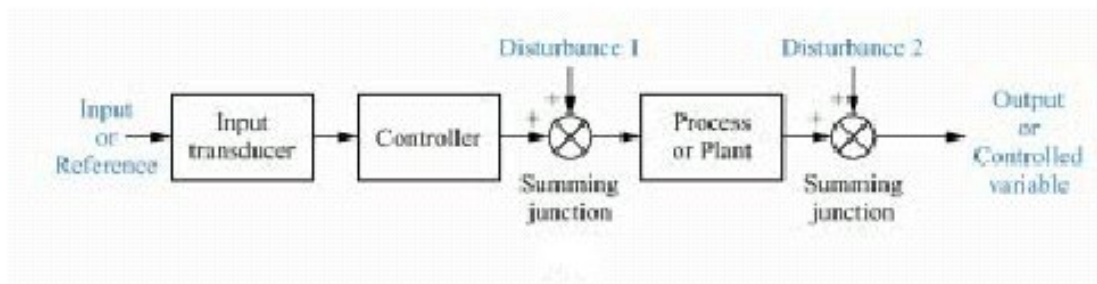

Figure 1.3: Open loop system
- Open-Loop Systems – as shown in Figure 1.3.